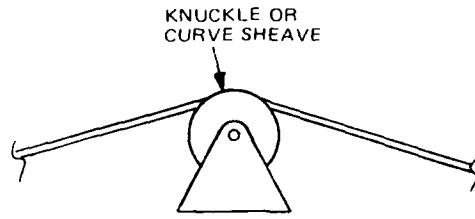

Figure 2
- A knuckle or curve sheave which supports the rope where it changes direction. (See Figure 2)